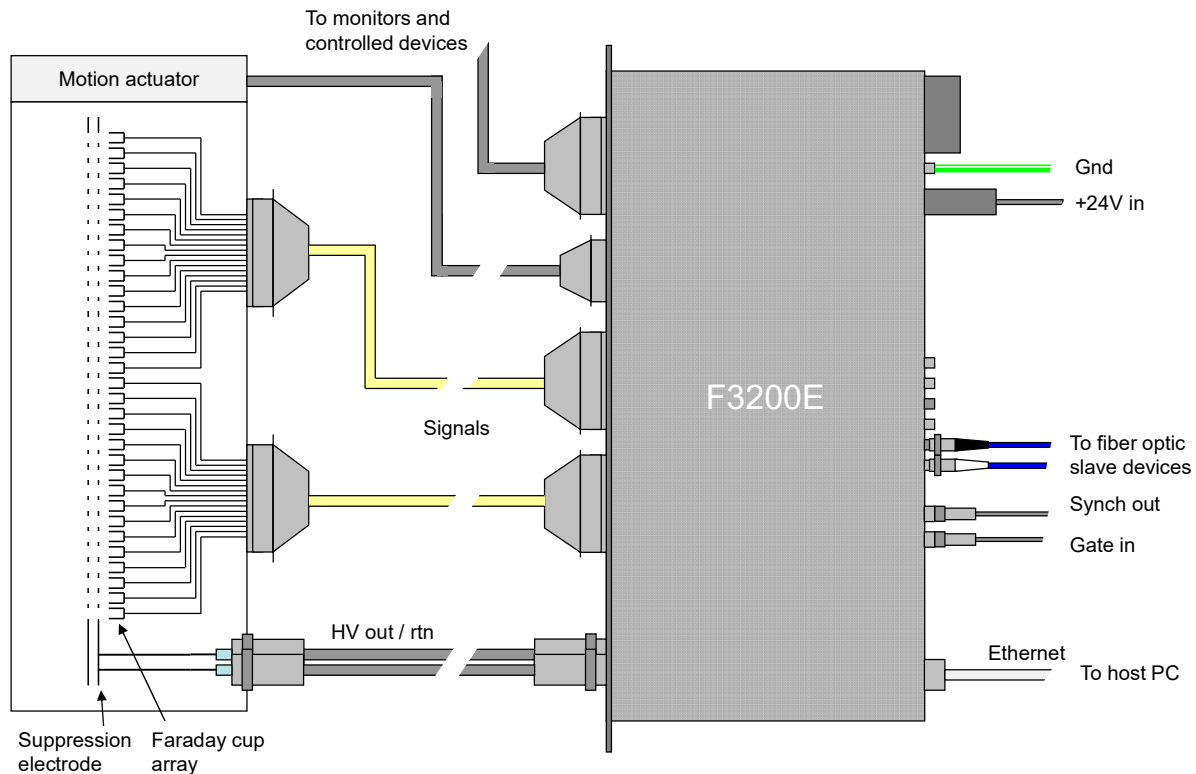

Figure 3. Schematic sample F3200E installation
Figure 3 shows an example installation in schematic form. It is only one possible arrangement; many others are possible. In this case thirty-two Faraday collector electrodes in a beamline system are connected to the F3200E inputs via low-noise multi-way cables. In this example, a suppression electrode is biased by the high voltage (HV) output. A loopback HV connection is made so that the F3200E can verify that the bias is reaching the suppression electrode.